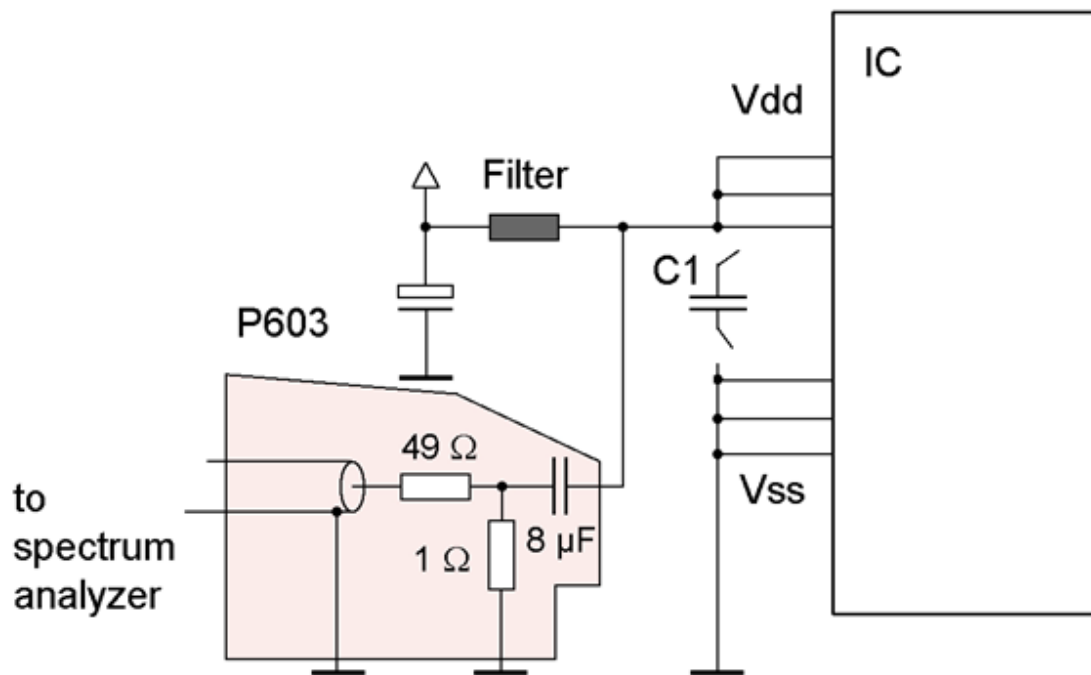

Figure 6: P603, current measurement on a single Vss pin.
2. Current measurement (P603) on a single Vss pin, **Figure 6**